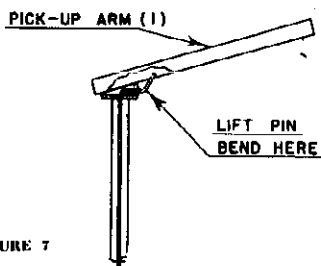

FIGURE 7
Readjust end of Lift Pin (25) so the needle will play first record. (See Figure 7.)